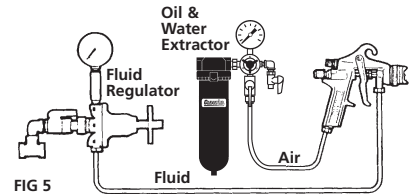

FIG 5
**PRESSURE CIRCULATING HOOKUP (Figure 5)**